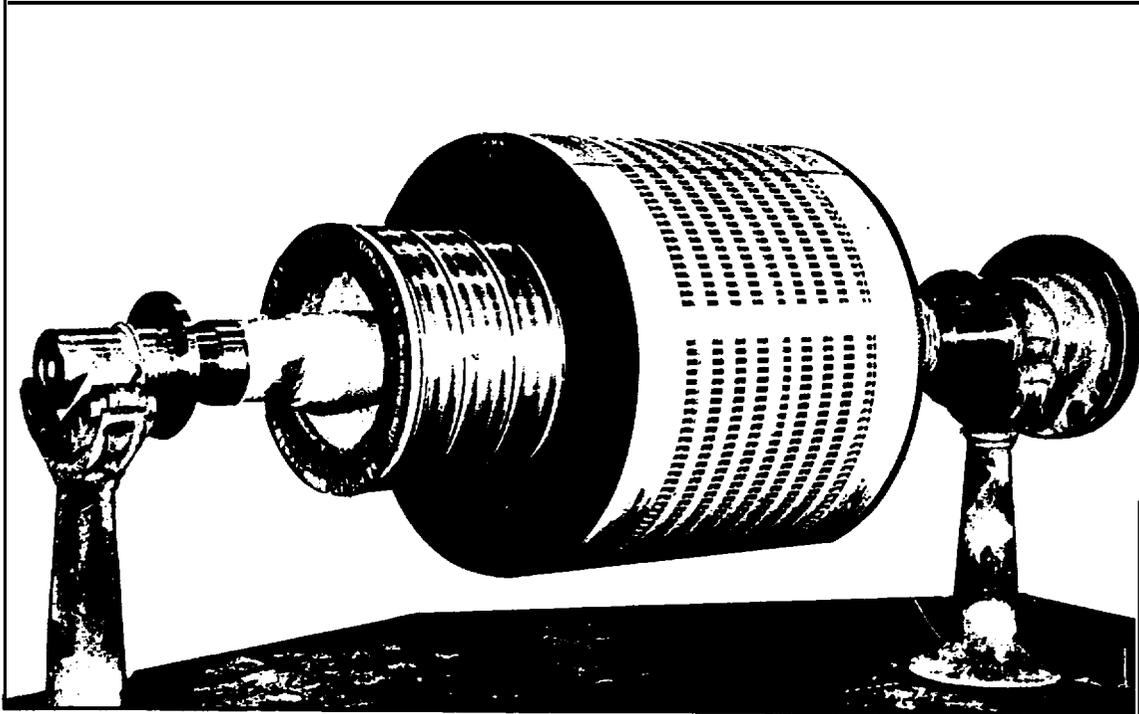

Figure 4-12. Armature of a large DC motor on stands.
d. *Components of DC machines.* The basic operating and maintenance requirements for DC motors are similar to those for AC motors. There are some special requirements due to the peculiar construction features of the DC motor. The recommendations that follow, particularly those for the armature (fig 4-12), also apply to AC synchronous motors. It is important that the armature be kept clean. Dust, grease, corrosive gases, moisture and oil are particularly harmful.